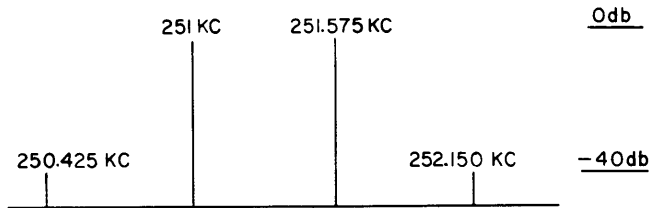

Figure 2-6. Scope Picture, Two Tone Test, DDR-5B
(3) Set CHANNEL A AGC DECAY control (36) and CHANNEL B AGC control (33) of IF Amplifier HFI-1 fully clockwise.
(4) Using frequency counter to determine correct frequency, set signal generator A at 2.501 mc with 0.3 volts output.
(5) Connect frequency counter to the "T" at signal generator B. Using frequency counter to determine correct frequency, adjust signal generator B to 2.501575 mc, with .3 volts output.
(6) Set Control Synthesizer and Standard HFS-1 nixie selectors for 2.5 mc, and carefully tune Continuous RF Tuner HFR-1 for zero beat at 2.5 mc. Set TUNE/SYNC/OPERATE switch (5) of HFR-1 at OPERATE. Perform steps (3) through (10).
(7) Connect Channel A i-f output of IF Amplifier HFI-1 at J6203 to signal input jack of spectrum analyzer.
(8) Set CHANNEL A IF BANDWIDTH KC control (35) of HFI-1 at 3.5 U SSB.
(9) Adjust spectrum analyzer for oscilloscope presentation and measure amplitude of third order products; these should be down at least 40 db, as shown on figure 2-6.
(10) Upon completion, leave test equipment set up for HNF-1 checkout procedure (paragraph 2-4, m).